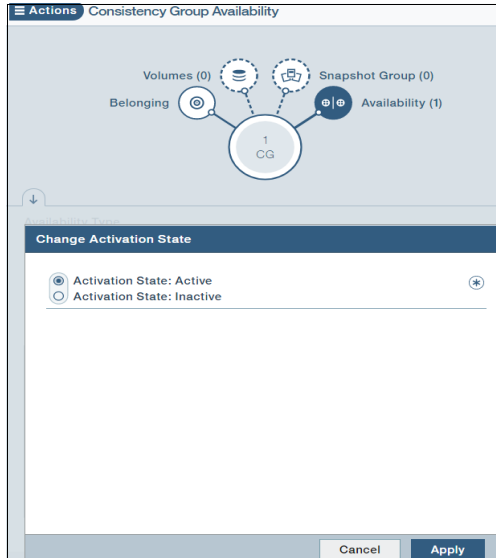

Figure 4-54 Activate mirroring
- You must select **Activation State: Active** for the state. Click **Apply** to make the change, as shown in Figure 4-54.